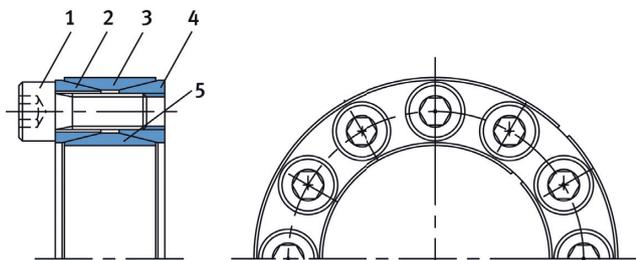

Fig. 1
Prior to installation, the clearances and the surface quality of the connected structure are to be checked. The locking assembly is delivered lightly oiled in a ready-for-installation condition. After prolonged storage or in the case of a reinstallation, all contact surfaces (Fig. 1), the threads and the screw head contact surfaces must be covered by a thin oil film.
**Step 3:** Tighten locking screws (Fig. 1, Item 1) slightly until they are in contact with the contact surfaces of the shaft and the hub. While doing this, the hub must be aligned accordingly.